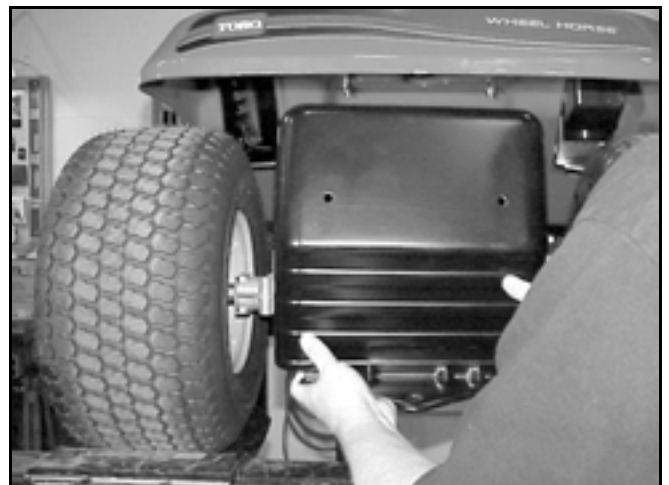

Figure 96
12. Install the rear hitch plate. There are 2 bolts, washers, and nuts on each side of the plate and 2 bolts, washers, and nuts for the seat springs (Figure 96).